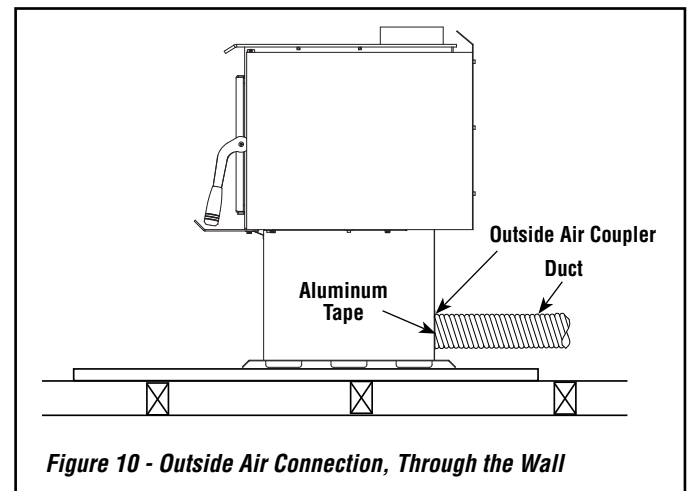

Figure 10 - Outside Air Connection, Through the Wall
- b) The air intake register must not be installed more than ten (10) feet above the base of the stove.
- Make a 4-1/4" hole in the outside wall of the house at the chosen location. From outside, place the outside air register in the hole (open side down) and fasten the register to the wall, with screws as shown (*see Figures 10 and 11*).